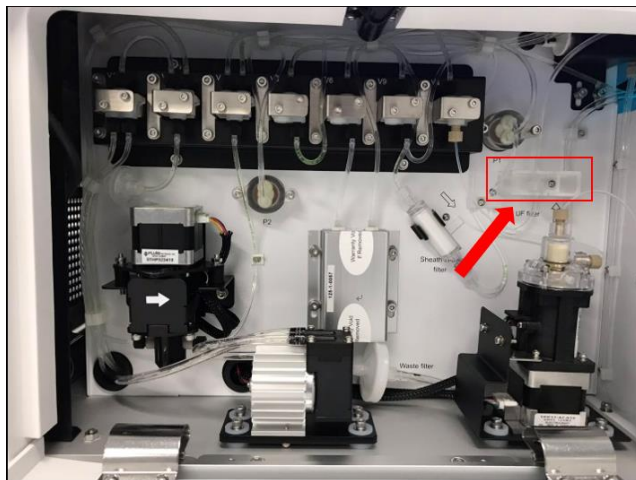

Figure 102. Location of the 0.05 µm Sheath Fluid Ultrafiltration (UF) Filter rack
- 3 Locate the 0.05 μm Sheath Fluid Ultrafiltration (UF) Filter rack (Figure 102). Disconnect the tubing located inside the rack by unscrewing the Luer connectors if first time installation or remove the existing filter by unscrewing the Luer connectors at two ends of the filter if this filter is already installed.